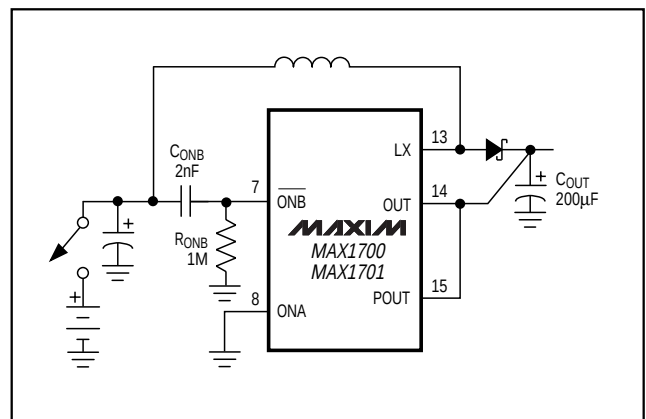

Figure 12. Connecting CONB and RONB when Switch or Battery-Contact Bounce Is Anticipated
1) Connect a capacitor (CONB) from $\overline{\text{ONB}}$ to V_{IN} , a $1\text{M}\Omega$ resistor (RONB) from $\overline{\text{ONB}}$ to GND, and tie ONA to GND (Figure 12). This RC network differentiates fast input edges at V_{IN} and momentarily holds the IC off until V_{IN} settles. The appropriate value of CONB is 10^{-5} times the total output filter capacitance (COUT), so a COUT of $200\mu\text{F}$ results in $\text{CONB} = 2\text{nF}$.